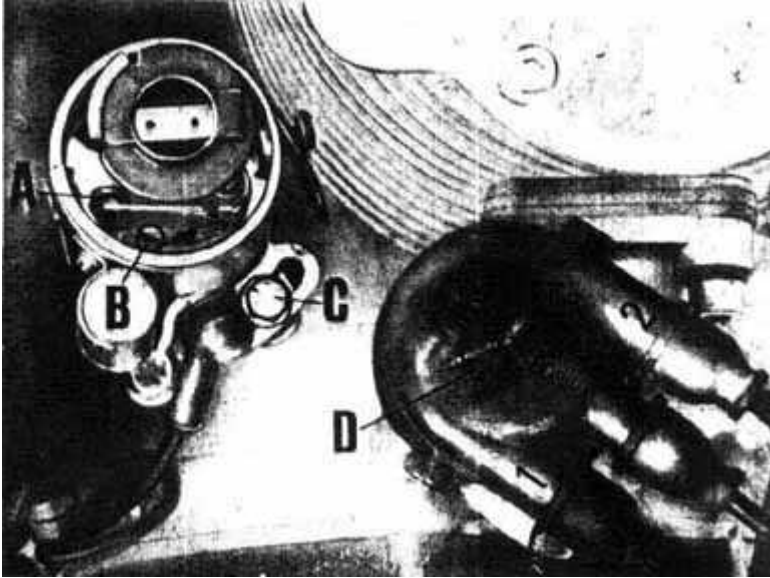

Fig. 25
**Distributor** [\(See fig. 25\) \[return to index\]](#)
the mentioned point, slacken distributor securing bolt C (fig. 25) and turn the distributor to the right or left to the position where the points start opening at the proper time.
The cylinder number is marked on the distributor cap as follows: n. 1 (right cylinder), n. 2 (left cylinder), -bobina- = coil (See D in fig. 25).